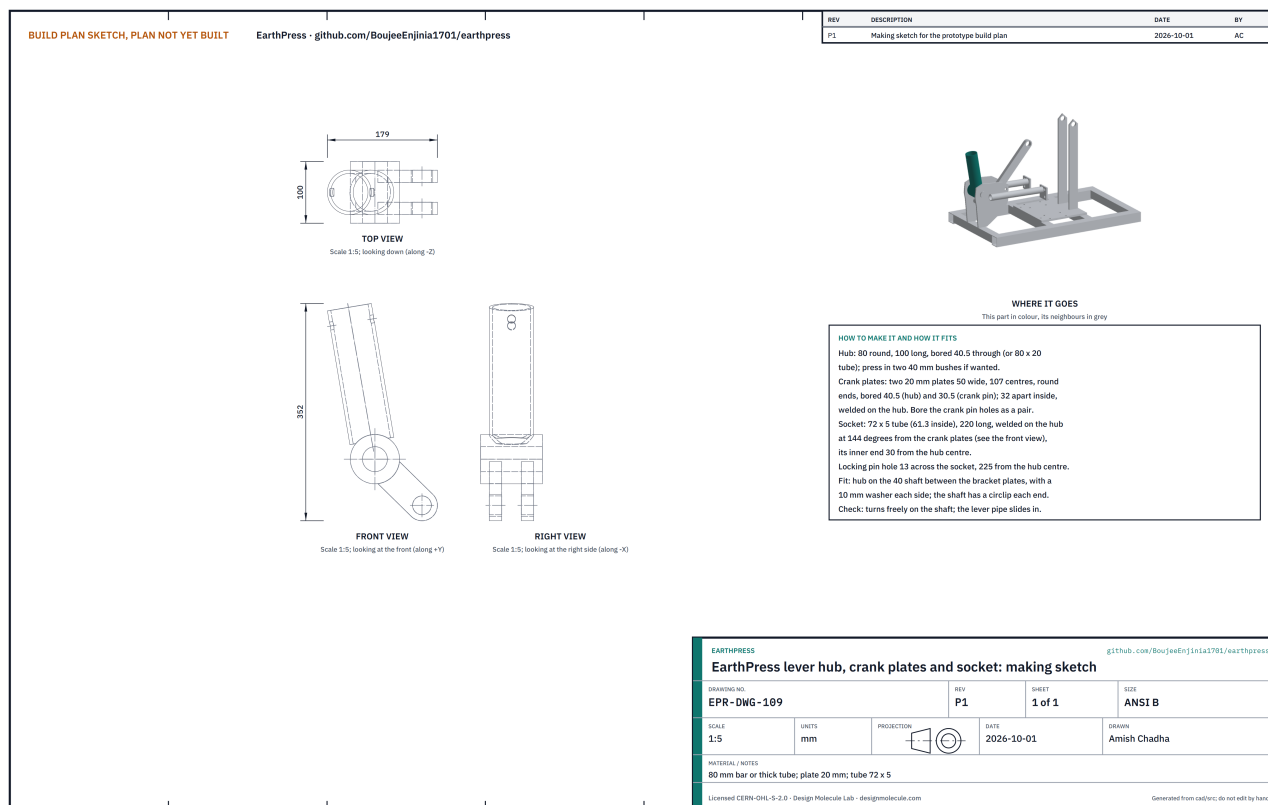

Figure 15. Lever hub making sketch (EPR-DWG-109).
4. Cut the socket, 72 x 5 tube, 220 long. Weld it to the hub at 144° from the crank plates, measured as in Figure 15, its inner end 30 from the hub centre.